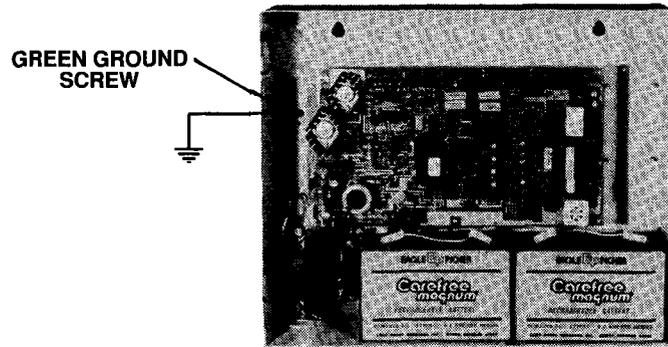

FIGURE 10
- A. Connect ground wire to green ground screws (Fig. 10) on box assembly.